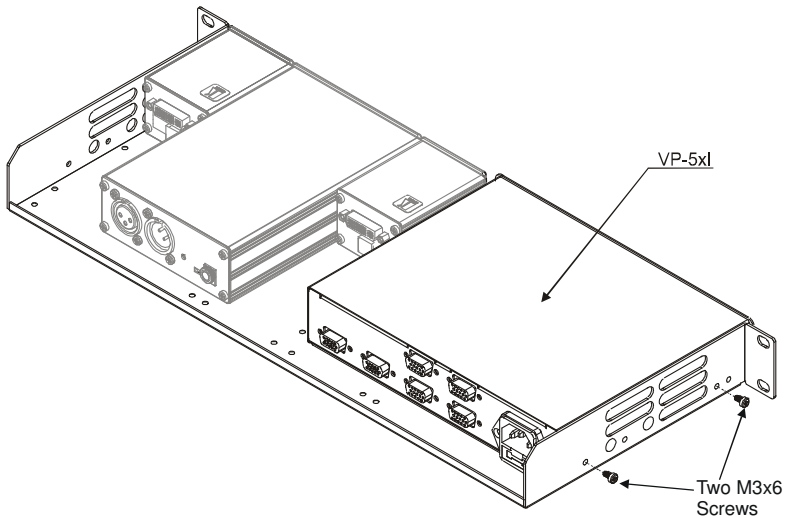
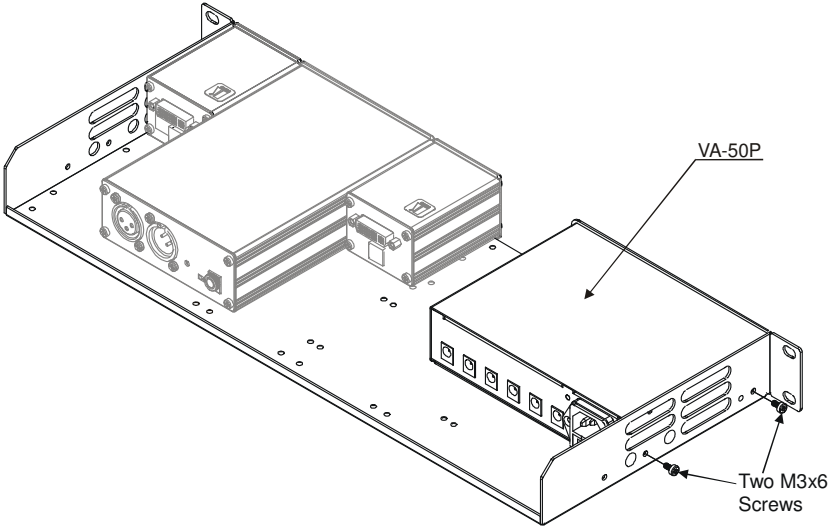

Figure 3: Mounting a half-19" unit via Screws on the RK-1 Side Panel
Figure 4: Mounting a 6.5" Machine via Screws on the RK-1 Side Panel
To mount the units on the RK-1 as illustrated in Figure 3 and Figure 4 (**VP-5xl** and the **VA-50P** respectively), do the following:
3. Insert the two M3x6 screws through the holes on the side panel of the **RK-1** that fit the holes on the side panel of the unit (as illustrated in Figure 3 and Figure 4).